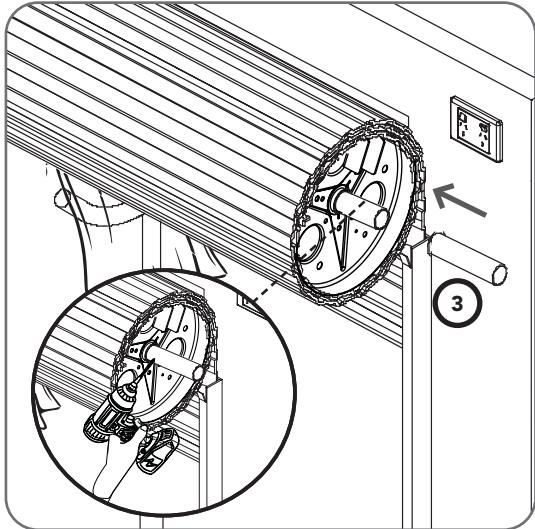

Fig. 3.1
- Insert the 1¹/₄" extension pipe (3) over the end of the axle and push all the way down to the door drum in **Fig 3.1**.
- Drill a 3/16" pilot hole into extension pipe (3) on an angle 1" out from the curtain edge. (**Fig 3.1**)